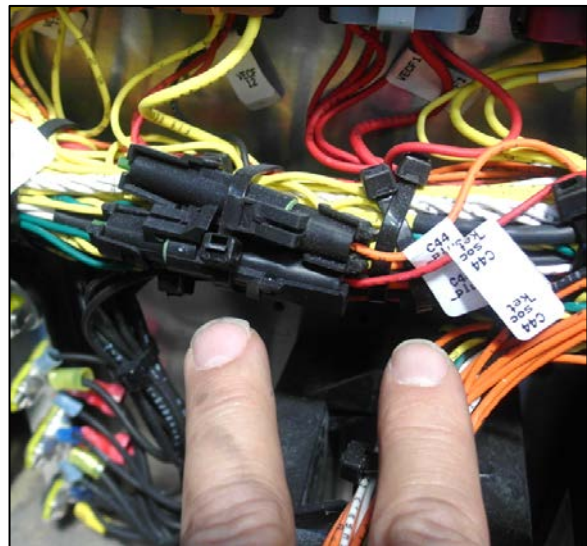

Figure 16
32. Use cable ties to fix the connectors with existing wiring (Figure 16).